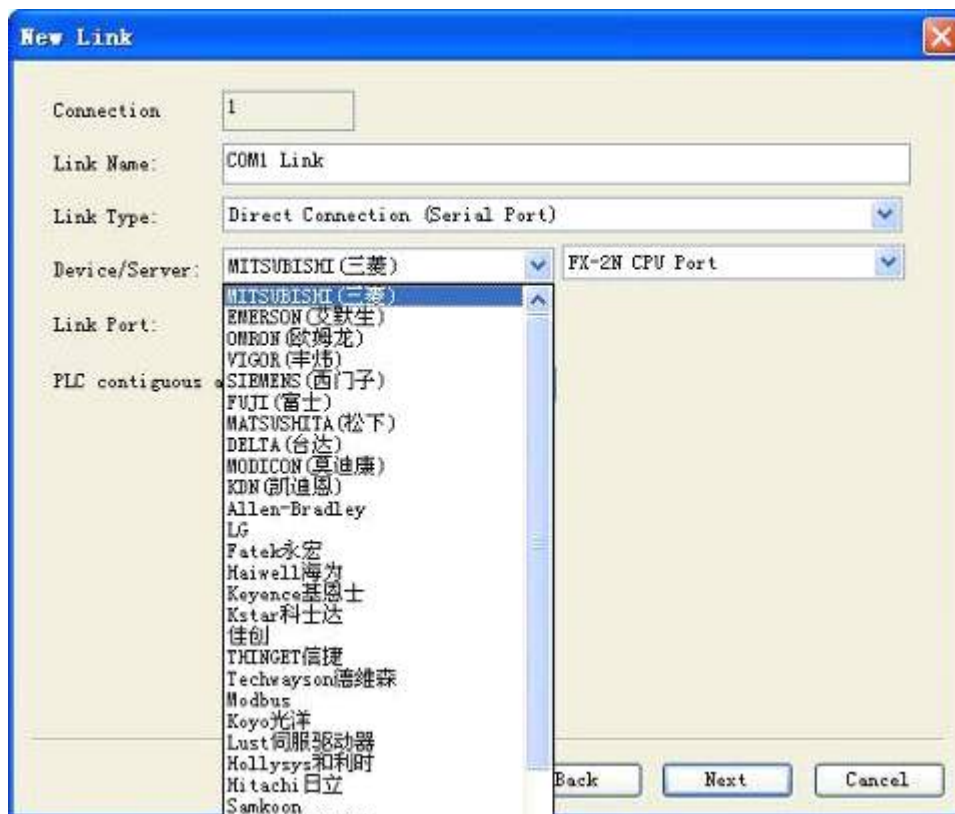

Figure 6-4 Dialog box for communication connection setting of new item
- ✓ Enter project name in column “Project Name”; select one saving position for the project in column "Position"; select “SA-4.3A(480\*272 4.3’)” in column “Model Selection” (The 4.3-inch HMI is just taken for example. Users can select other models as required); select “Horizontal” in column “Display Mode” (Users can select vertical display as required). After finishing the setting, information just set by users will display in the below module “Model Parameter”. Users can click “Next” after confirmation to pop up the dialog box as shown in figure 6-4.